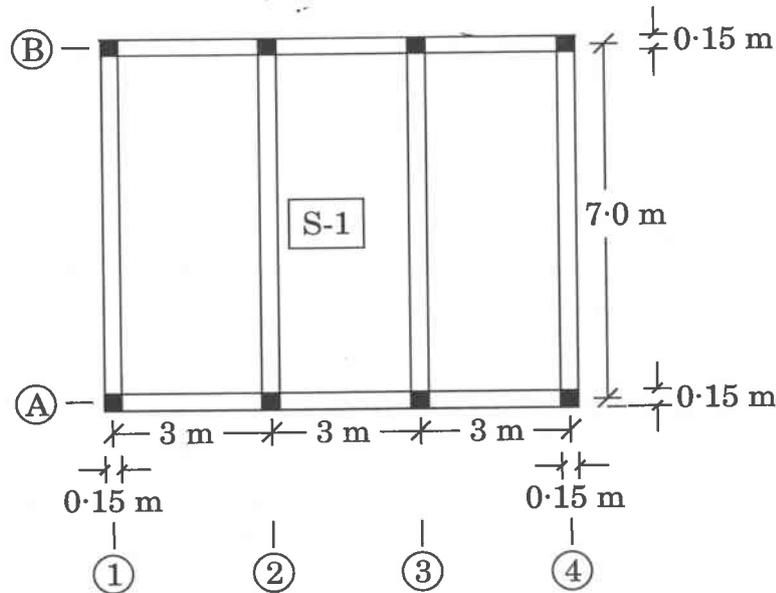

Figure 4(a)
- Q4. (a) Design slab panel **S-1** (by Limit State Method) for flexure only, as shown in Figure 4(a). All slab panels are supported and monolithic constructed with RCC frame structure. Following are the design considerations :